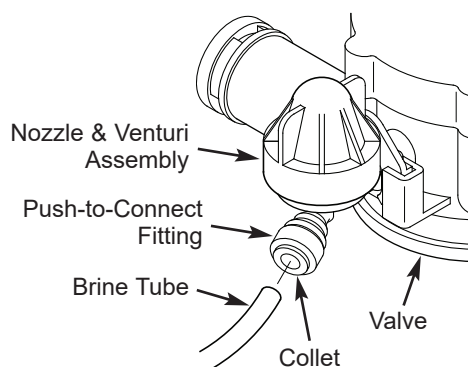
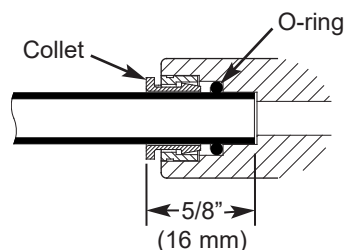

FIG. 15
FIG. 17
- Connect brine tube by inserting end into push-to-connect fitting on the valve's nozzle & venturi assembly (See Fig. 15). Push it until at least 5/8" (16 mm) of tube is inserted (See Fig. 17).